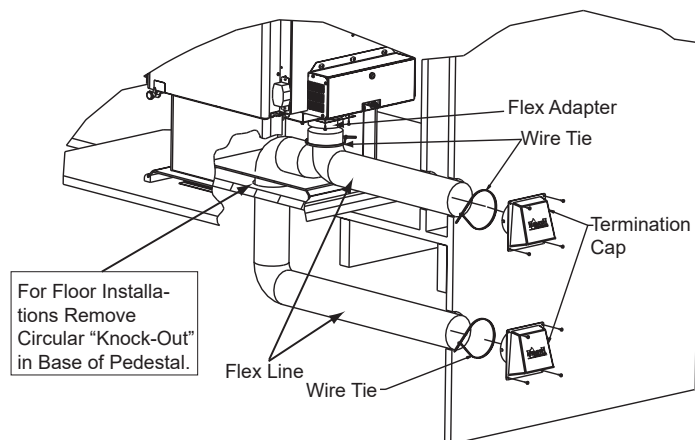
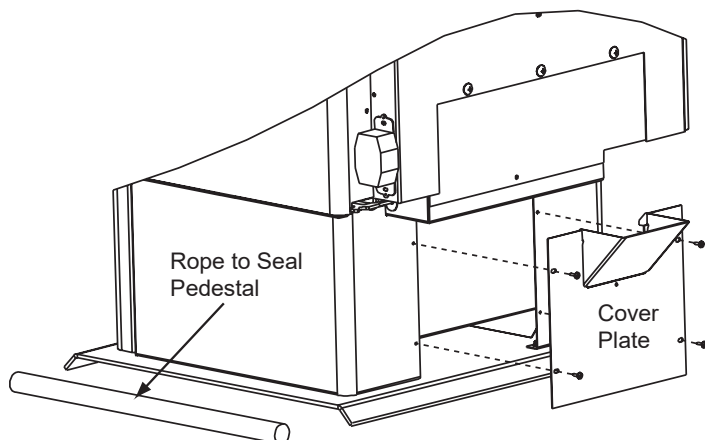

Figure 16.1 - Floor & Rear Installation
Figure 16.2
Included in SRV7033-041: Cover plate and sealing rope (see Floor Installation Alternative below, **Figure 16.2**)
2. Using a #2 Phillips screw driver attach the flex adapter to the appliance using 4 screws (**Figure 16.1**).
In some instances you may not be able to install the flex pipe as show in **Figure 16.1**. If that is the case, you will need to order SRV7033-041 which includes a cover plate and sealing rope as shown in **Figure 16.2**. The goal is to seal the pedestal so no room air can leak into the pedestal or for cold air infiltration.